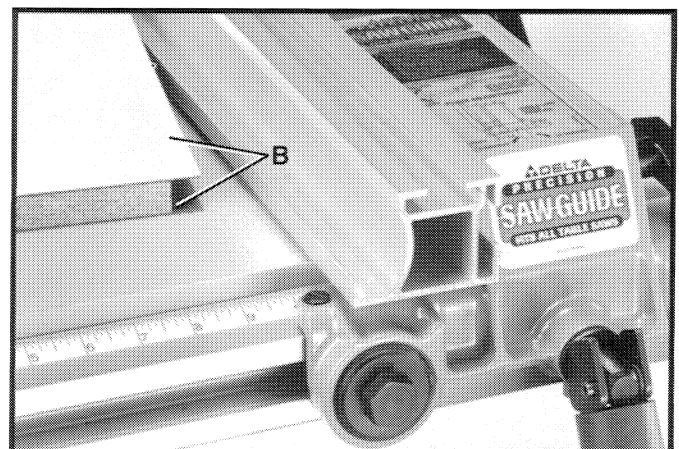

Fig. 88
When ripping material with a veneer facing and the material is not thick enough for the veneer to extend over the lip of the fence or if the veneer facing (B) is on both sides of the material, as shown in Fig. 88, the fence can be positioned slightly above the surface of the table. The veneer can be placed between the fence and the table or the veneer can straddle the fence with the material solidly against the fence, as shown.